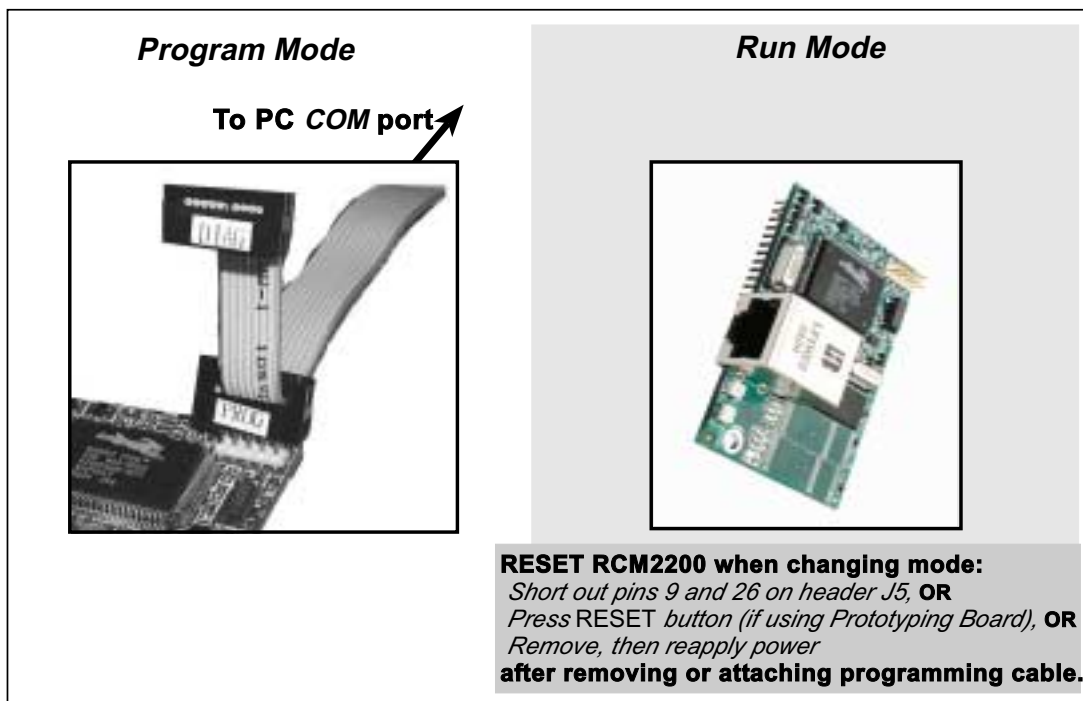

Figure 6. Switching Between Program Mode and Run Mode
2. Reset the RCM2200. You may do this as explained in Figure 6.